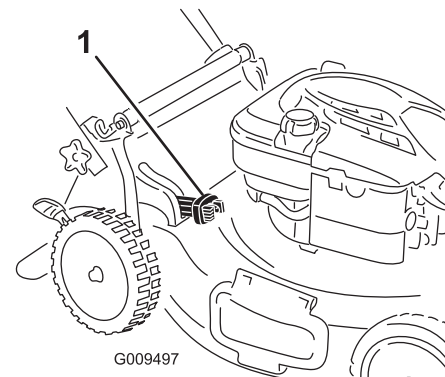

Figure 25
- For bagging the grass and leaf clippings, press the button on the bag-on-demand lever and move the lever forward until the button on the lever pops up (Figure 25).